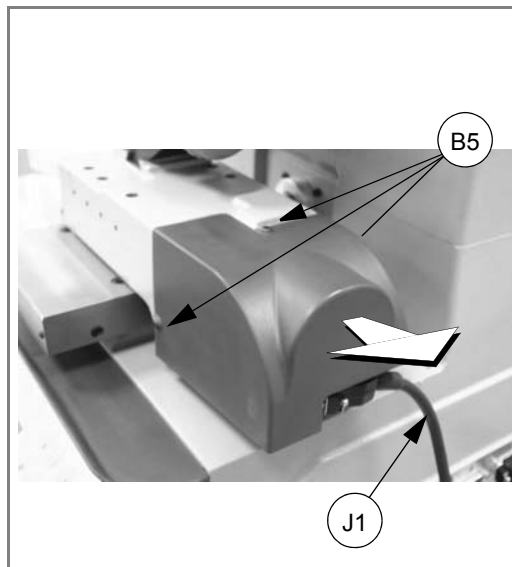

Fig. 80
**TOP AXIS (X) SENSOR REPLACEMENT**
- 3) disconnect the top axis connection wire (J1) from the carriage (fig. 80).
- 4) remove the top axis cover by unscrewing the 3 fixing screws (B5) and pull out in the direction shown (fig. 80).